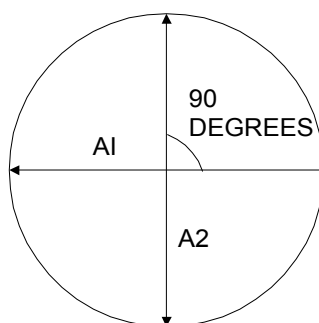

Figure 4: Checking Pivot Bush Bore
- D.1.3 Measure the pivot bush bore. The bore shall be measured in two positions (see Figure 4) 90° apart, 10mm in from each end. All measurements shall fall within 128.00 to 128.06mm